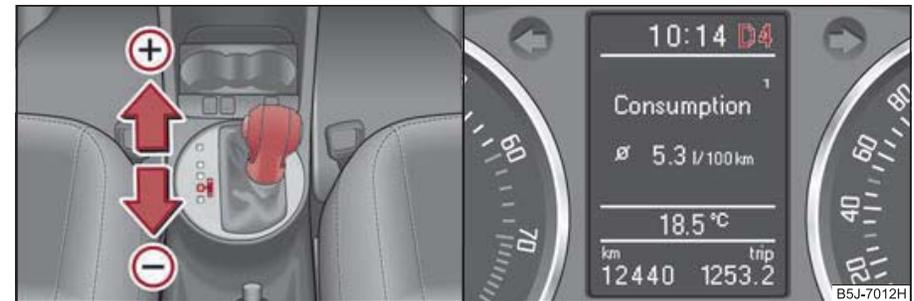

Fig. 102 Selector lever: manual shifting/large information display: Manual shifting of gears
The selector lever position you have engaged is indicated in the information display of the instrument cluster together with the engaged gear ⇒ fig. 102 on the right.
- One-touch forward of the selector lever (in the Tiptronic position) ⇒ page 98, fig. 102 (+).